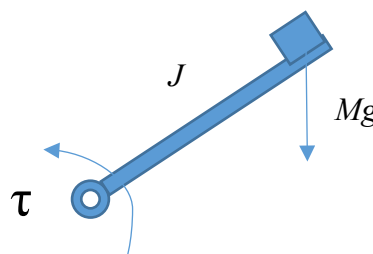

Figure 1: Single arm robot under gravity.
1. **Current Control:** Refer to the DC motor and H-bridge converter that you built in lab 1. Design and simulate a current controller that can control the motor current to a desired constant setpoint value. Tune your controller and improve its performance as much as you can. Change the load inertia, friction parameters, and current setpoints to test your controller. You may also connect your controller to a revolute joint single robotic arm under gravity and evaluate the performance of your controller., e.g., motor shaft rotating in a horizontal plane as shown in Figure 1.